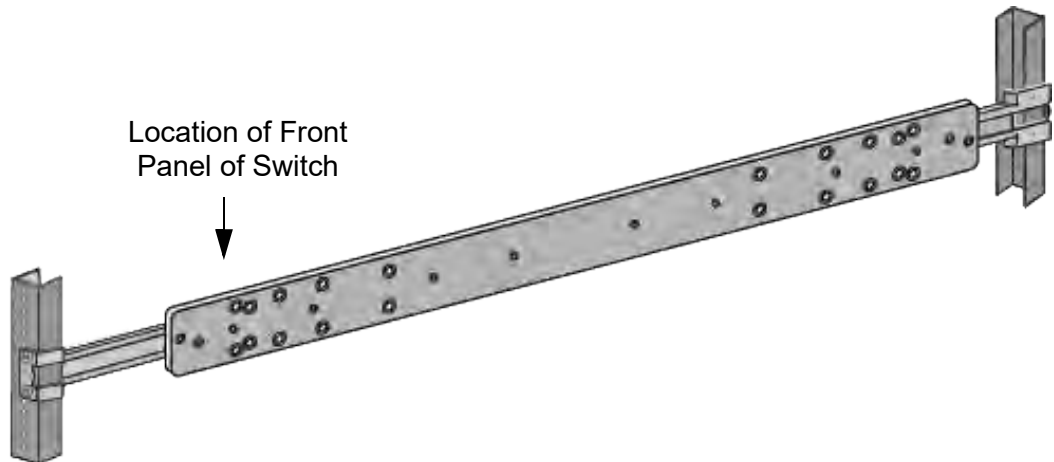

Figure 77. Example of Positioning the Inner Rail
2. Position the inner rail at the planned location for the front panel of switch in the sliding rack. Refer to Figure 77.